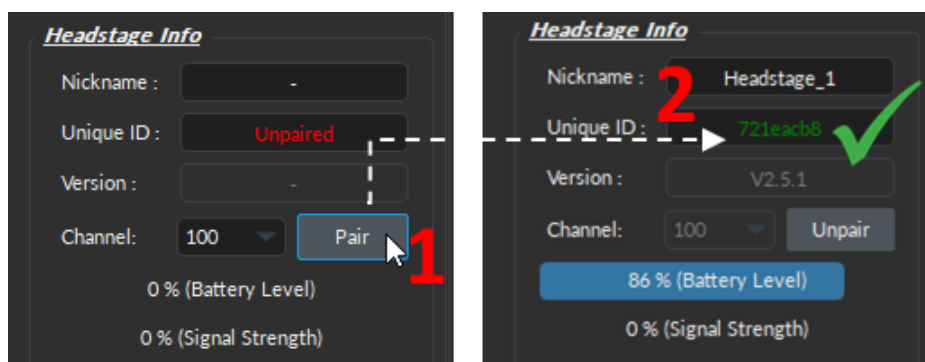

Figure 3.54: Pairing Headstage
**Note:** To obtain a value different from 0% for the signal quality, it is necessary to launch **Read** or **Record**. To pair the headstage (Fig. 3.54), (1) click **Pair** and (2) unique ID in green will appear if correctly paired.